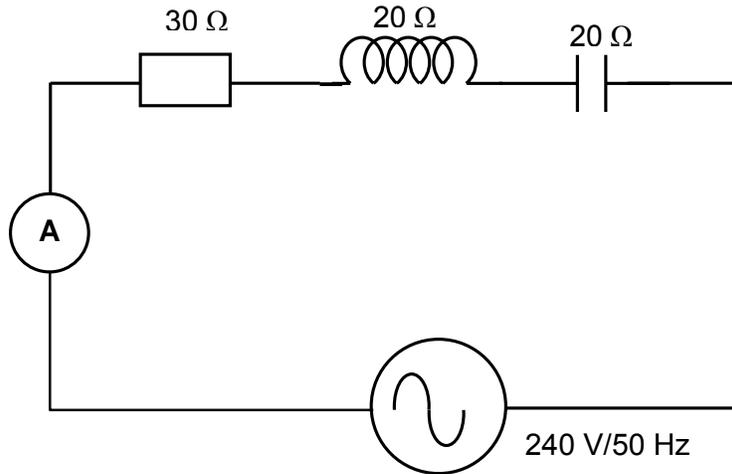

FIGURE 5.3 – RLC SERIES CIRCUIT
5.4 Calculate the current flowing in the circuit shown in FIGURE 5.3.